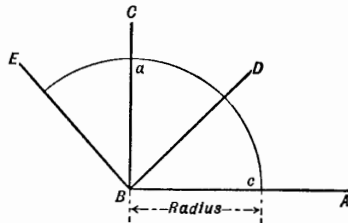

Fig. 25
16. An *Obtuse Angle* is greater than a right angle and is measured by an arc which is more than a quarter circle. To make a comparison therefore between a number of angles, they must all be measured upon arcs having the same radius. In Fig. 25 A B C is a right angle, being measured by the quarter circle *a c*; A B D is an acute angle and A B E is an obtuse angle.